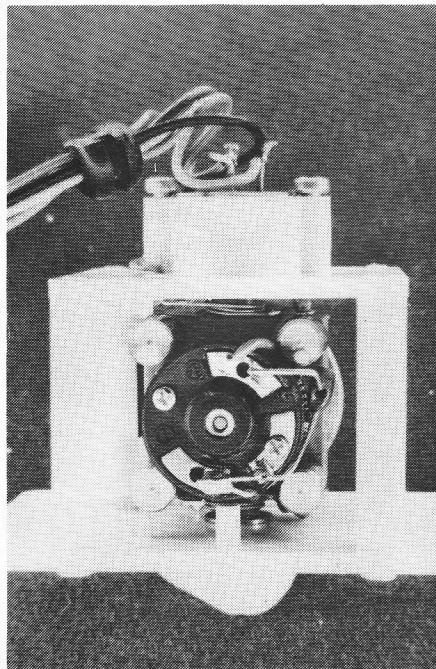

Fig. 4. Component placement.
- IC1, Capacitors C1, C2, C3, C4, VR3 pot, Capacitor C5. Resistors. Diodes. See Fig. 4, component layout.
3. Connect the wires from the mechanics module as shown in the layout of the pre-amp. Fig. 4.